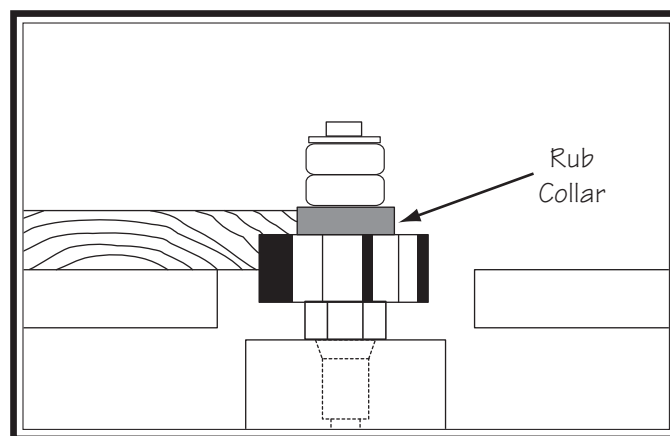

Figure 53. Cutting with rub collar above cutter.
2. **Rub collar above cutter:** When rub collar is used above cutter, cut cannot be seen (see **Figure 53**). This offers some advantage—stock is not affected by slight variations in thickness and accidental lifting will not damage workpiece. Simply correct any change in height by repeating operation.